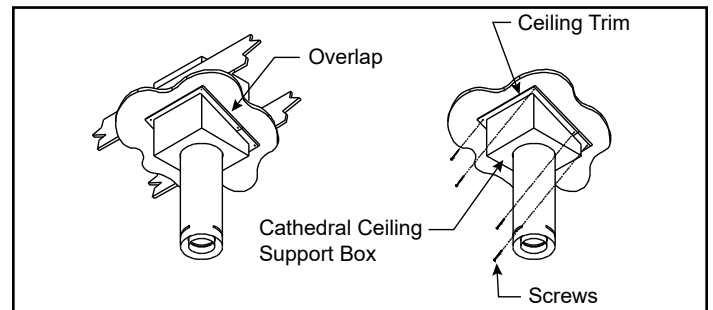

Figure 3.41
Step 9 - Install the black trim collar around the outside of the Cathedral ceiling support box. The two pieces of the trim collar slide over one another to allow for easy adjustment around the support box. Using the six (6) screws provided, secure the four corners and the overlapping sections of the trim collar to the underside of ceiling. You may want to predrill the holes for the overlapped sections for ease of installation, Figure 3.41.